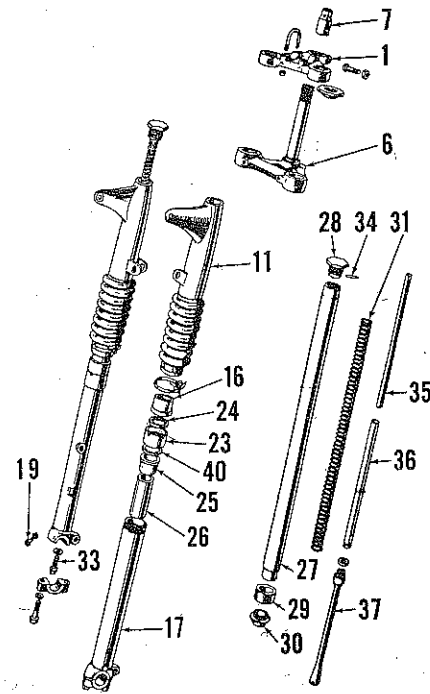

Fig. TM1-15—Exploded view of T20S and T20T front suspension unit. Stem (6) rides on 1/4 in. diameter bearings. Fifteen are used in each race.
The front suspension used on T20S and T20T models is shown in Fig. TM1-15. Capacity of each unit is 150cc (3/4-pint). Unit is drained at plug (19) and refilled at cap nut (28). Oil should be drained and serviced with same grade of oil as used in engine at least every 5000 miles. Tube (27) should be renewed, not straightened, if bent more than a total of 3/16-inch. Springs (31)